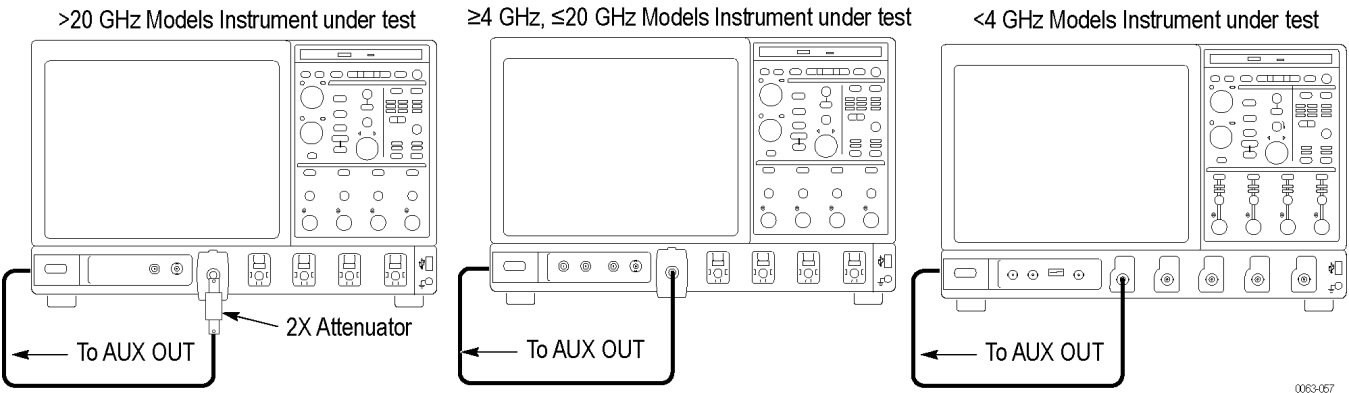

Figure 35: Aux Trigger Out test hookup
- Hook up test-signal source:* Connect **Aux Out** to **Ch 1** through a 50 Ω precision cable and an adapter. (See Figure 35: Aux Trigger Out test hookup.)